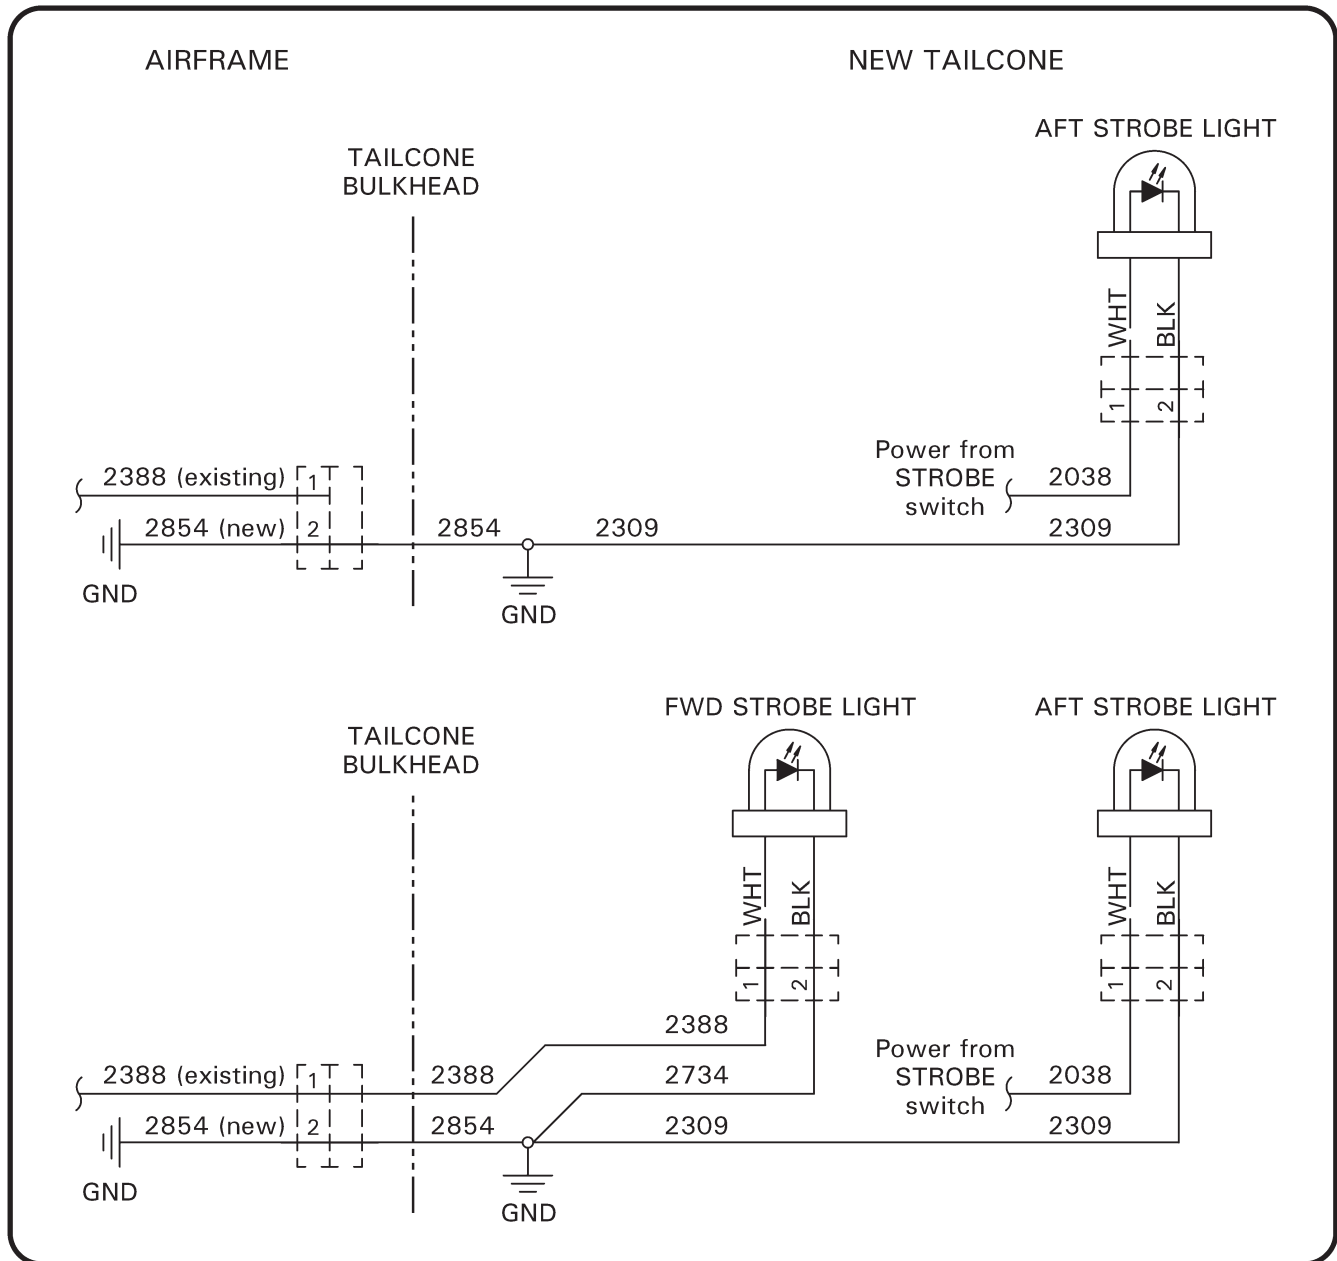

FIGURE 4 Wiring schematic
4. Refer to Figure 4. Install wire (-2854) socket in position 2 of B263-13 housing (supplied) and existing wire (-2388) socket in position 1. Verify security of sockets in housing. Slide B158-8-1 heat shrink over housing wire entrance and apply heat.